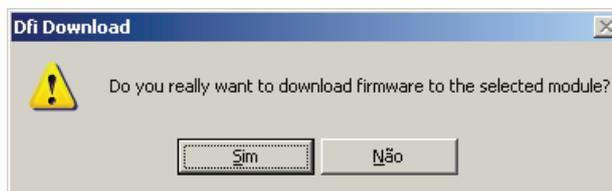

Figure 3.8 – Download Firmware Confirmation
19. Click the **Download** button. The following dialog will appear (Figure 3.8).